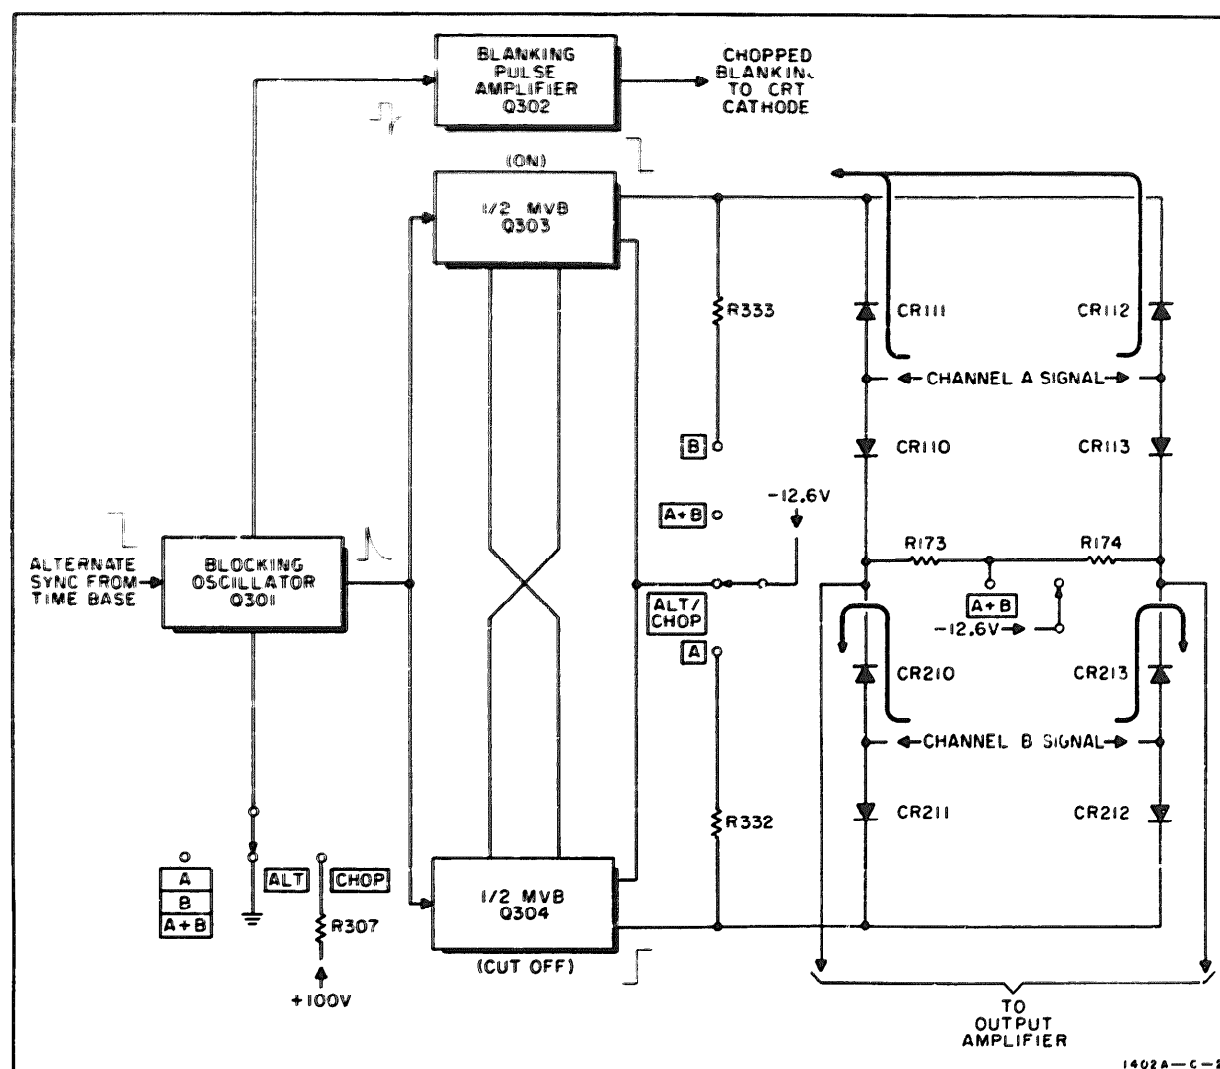

Figure 2-11. Switching Circuit Simplified
The switching circuit consists of a blocking oscillator, a blanking pulse amplifier, and a multivibrator. The switching circuit applies either cut-off bias or conducting bias to the switching diodes at the output of each amplifier channel (CR110 through CR113, and CR210 through CR213) and thus determines which channel is on at a given time. **Fig. 2-11** is a simplified diagram of the switching circuit.
C. MULTIVIBRATOR. Transistors Q303 and Q304 are connected in a bistable multivibrator circuit. Depending on the position of the FUNCTION switch the multivibrator may be switched by positive triggers from Blocking Oscillator Q301 (ALT or CHOP), locked in either of its two stable states (A or B), or disabled (A+B). Fig. 2-11 illustrates signal conditions for ALTERNATE operation at a time when Q303 has been switched on (output more negative) and Q304 has been cut off (output more positive). With these output voltages, CR111 and CR112 are forward-biased, which shorts Channel A signal. The current of Channel A output transistors Q103 and Q104 flows through Q303 of the multivibrator. Diodes CR110 and CR113 are reverse-biased, which disconnects Channel A output from the output amplifier. Channel A is therefore "off". In Channel B, diodes CR211 and CR212 are forward-biased, which permits signal from Channel B output transistors Q203 and Q204 to be coupled to the output